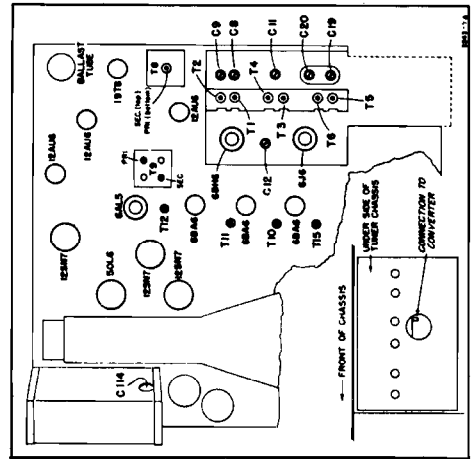

Figure 9
1. Connect the signal generator, thru a 47-mmf capacitor, to the converter. Ground the generator to the tuner cover. The converter connection may be made thru a hole in the tuner cover (figure 9).
4. With the signal generator set at the specified alignment frequencies, tune the corresponding coils for maximum response on the output meter, as indicated below. All the coils are slug tuned. (See figure 9.)